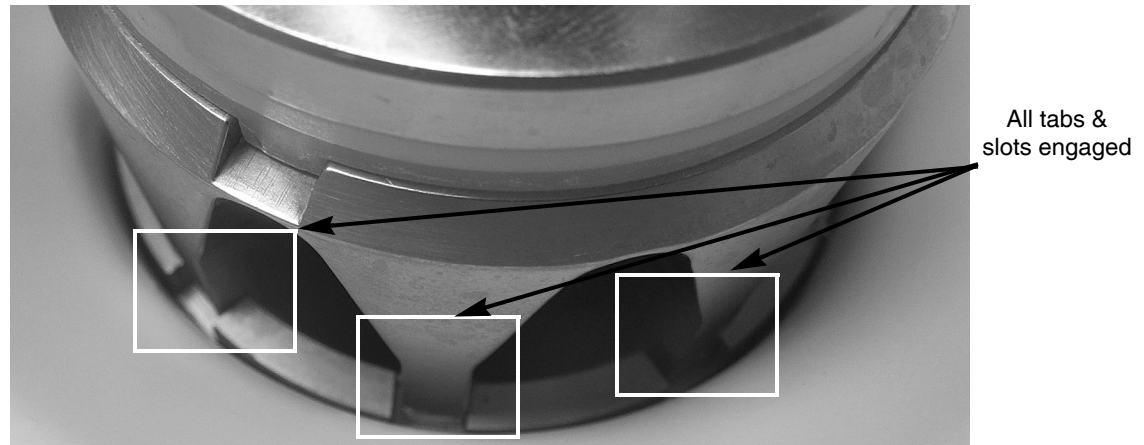

Figure 17.
3. Carefully rotate the extruder head until the tabs on the extruder head drop into the slots on the evaporator plate, as shown in Figure 17. When the auger/extruder head assembly is rotated to the proper position, it will drop about 1/4 inch to more fully engage the motor drive shaft.